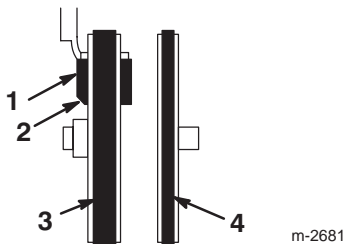

Figure 28
17. Ensure that the brake pad is properly installed on the brake arm. Position the angled cutoff on the brake pad as shown in Figure 28.
13. Ensure that the brake pad is properly installed on the brake arm. Position the angled cutoff on the brake pad as shown in Figure 28.